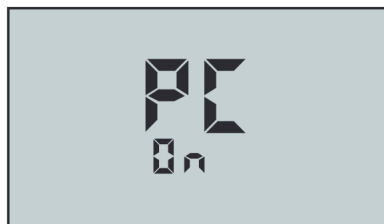

Figure 25
3. Then press the  key. "PC On" will be displayed (see Figure 25).